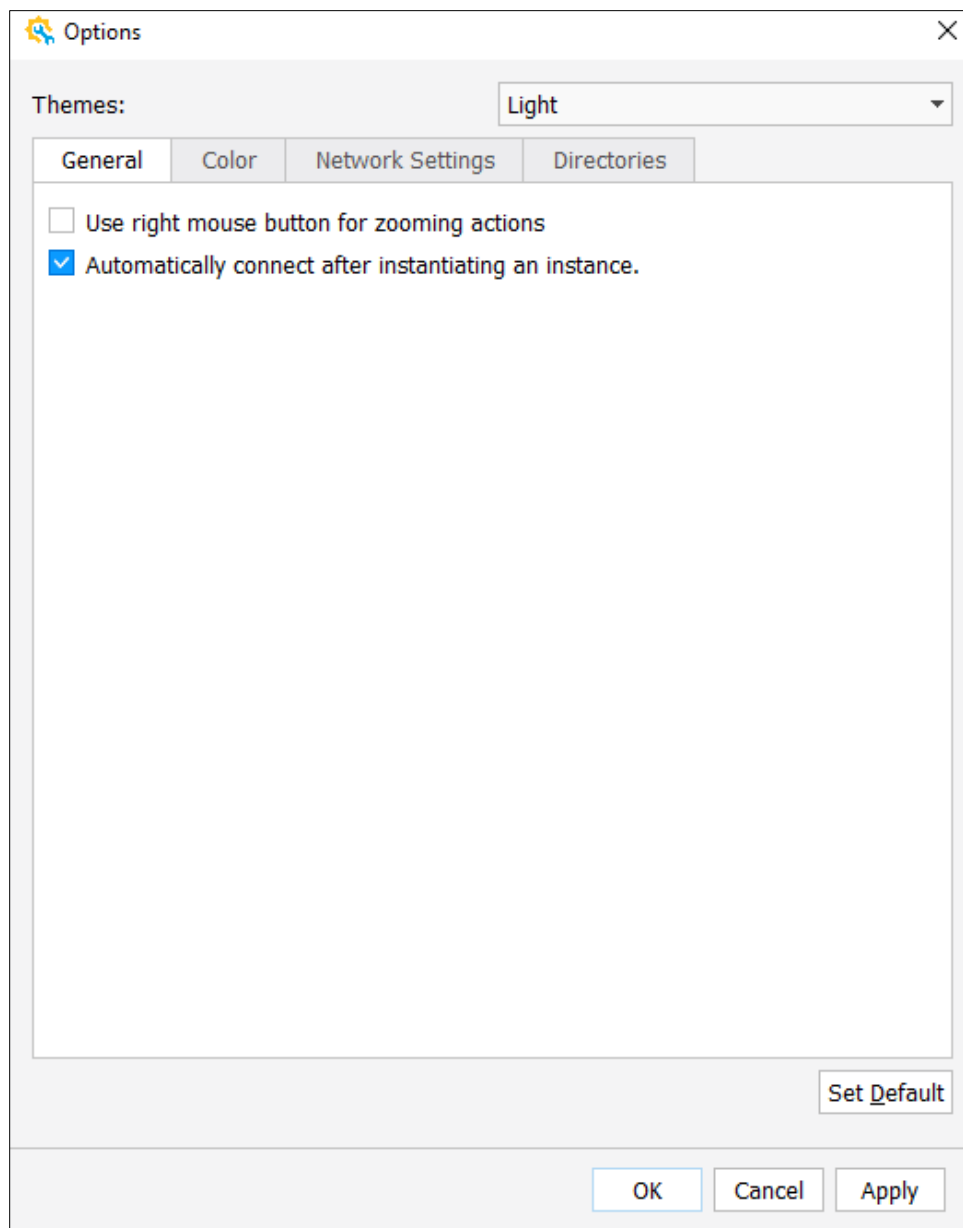

**Figure 2.136. Theme Change**
Choose **Tools > Options** from Propel Builder menu bar. The Options Dialog opens (Figure 2.136).
**Note:** A restart of Propel Builder is required to take effect of the theme change (Figure 2.136).